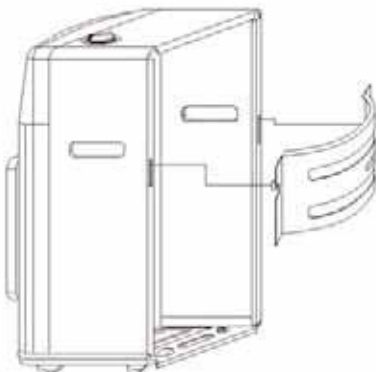

Figure 2. Removing/Replacing Back Cover
- Remove the Back Cover by sliding the cover straight up and away from the Heater Body. Place the LP cylinder on the Bottom Plate and replace the Back Cover. (see Figure 2).